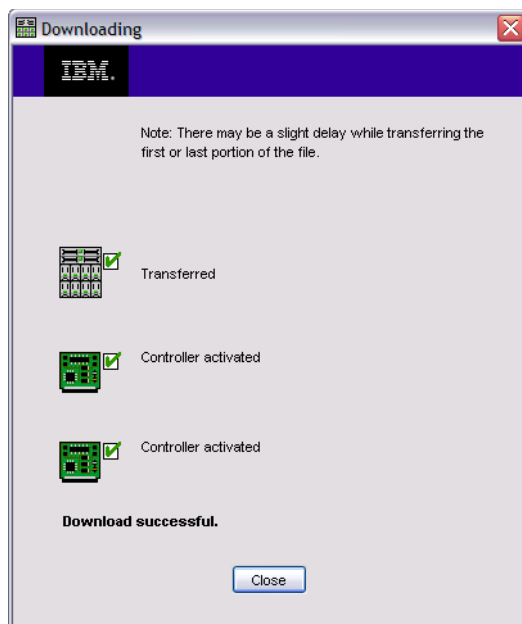

Figure 14-22 Download successful
7. After each task has completed successfully (Figure 14-22), click **Close** to return to the Download Firmware window (Figure 14-12 on page 309).